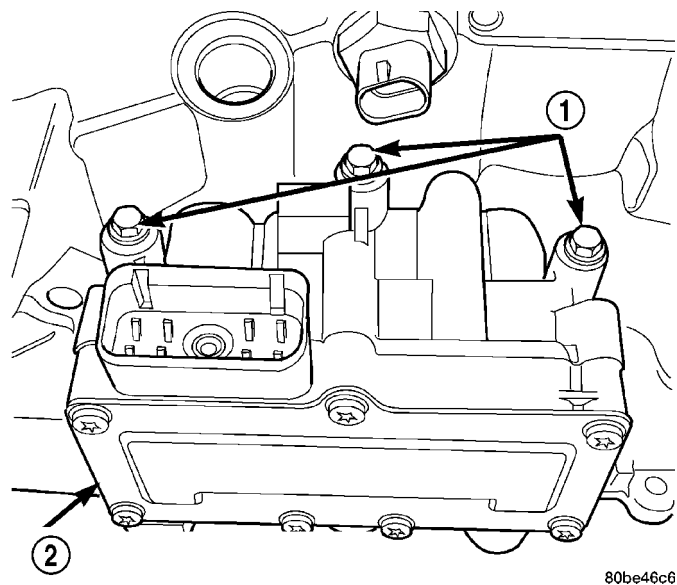

Fig. 283 Solenoid/Pressure Switch Assembly-to-Case Bolts
(6) Remove three (3) solenoid/pressure switch assembly-to-transaxle case bolts (Fig. 283).
(2) Install and torque three (3) bolts (Fig. 283) to 13 N·m (110 in. lbs.).